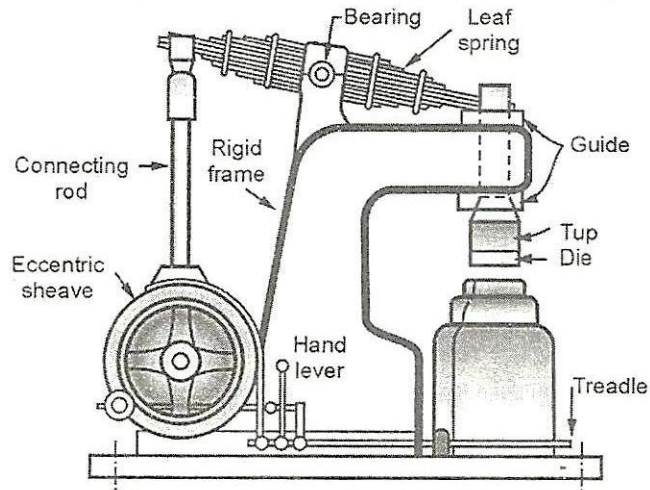

Fig. 3.15 : Spring hammer
- One end of this spring is connected to the connecting rod and other end is connected to a vertical tup which reciprocates between fixed guides. Refer figure 3.15.